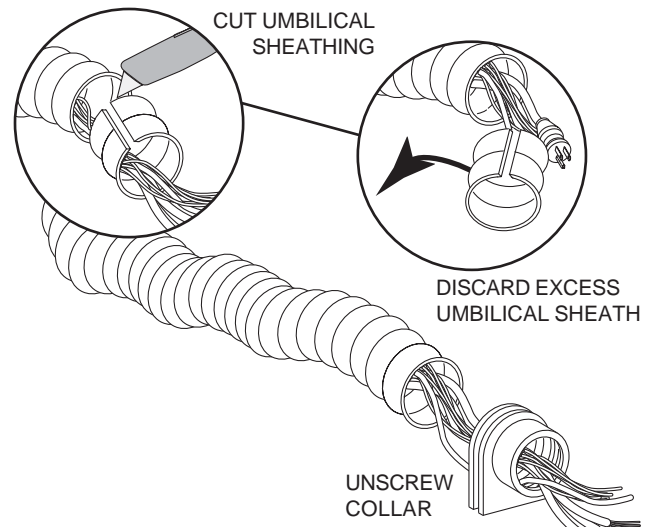

FIGURE 1
- b. Unscrew the collar from the umbilical (see Figure 1).
- c. Slit the excess umbilical convolute sheathing lengthwise (see Figure 1), then remove it from the tubing bundle. Take care to avoid cutting the internal tubing or wiring.